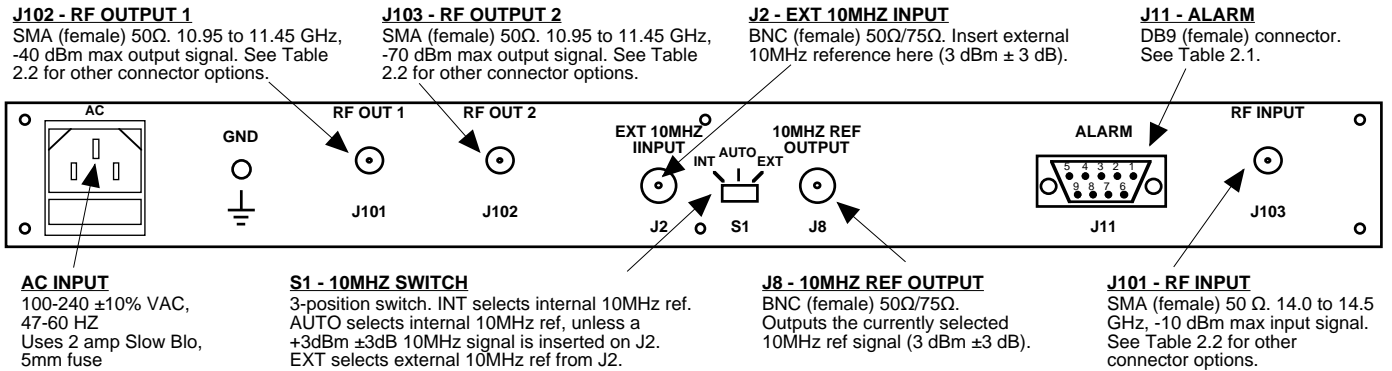

FIGURE 2.1 2116-14T11 Rear Panel I/O's
Figure 2.1 shows the input and output connectors on the rear panel.
1. Connect a -30 dBm to -0 dBm signal to RF INPUT (J101) (Figure 2.1).
5. Select either INT (for internal 10MHz ref), AUTO (for internal 10MHz ref UNLESS an external 10MHz, 3 dBm signal is connected to J2), or EXT (for external 10MHz, 3 dBm ref that is inserted at J2) using the rear panel 3-way switch, S1 (Figure 2.1).
7. Check that a 10MHz, 3 dBm \pm 3 dB signal is present at the 10MHZ REF OUTPUT (J8) (Figure 2.1).